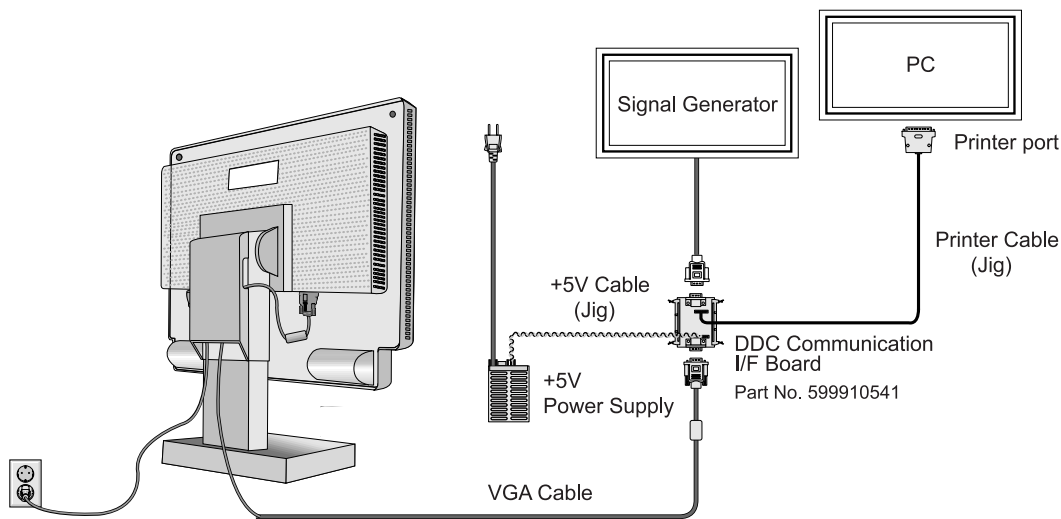

Fig 3.1.1 D-SUB connector connection
- 2) Connect the EDID data writing unit with jigs, etc. (Fig 3.1.1 Refer to a connector connection.)